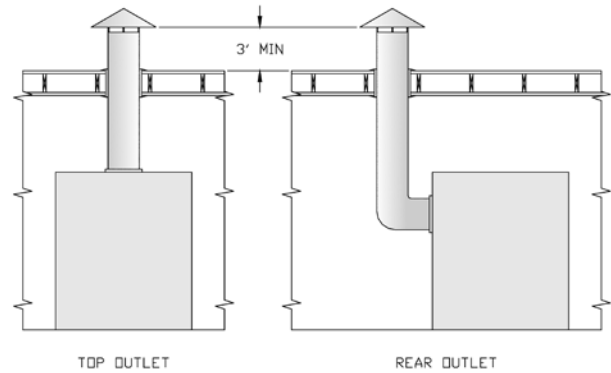

Figure 3a: Typical Arrangement For Stub Vent
The V11 Series boiler is designed for forced draft firing and may be used with a conventional natural draft stack (15' minimum height) or a stub vent, sometimes called a diesel stack (see Figure 3a). See Table I for the proper vent outlet size. For low silhouette vent terminations, see Figure 3b. Draft controls are not normally required, although they may be used on installations where a natural draft stack is used or on multiple boiler installations with a common stack. The boiler is provided with a breeching damper, which should be adjusted to maintain a positive pressure of 0.1" W.C. in the vent connector box during burner high fire operation (see breeching pressure sensing port in Figure 1).
If the venting system is designed for positive or forced draft venting, the boiler, vent connector and stack will operate under positive pressure. Gas tight vent systems designed for pressure systems must be used to prevent flue by-product leakage. The vent height is usually limited to prevent negative draft, typically three (3) feet above the roof line (see Figure 3a). The damper shall be adjusted to maintain a positive pressure of 0.1" W.C. in the vent connector box during burner high fire operation (see breeching pressure sensing port in Figure 1).